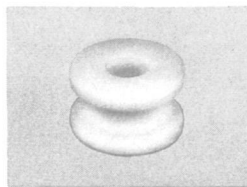

Fig. 1 - S Knob
1.02 The S knob (Fig. 1) is designed to accommodate one drop wire.